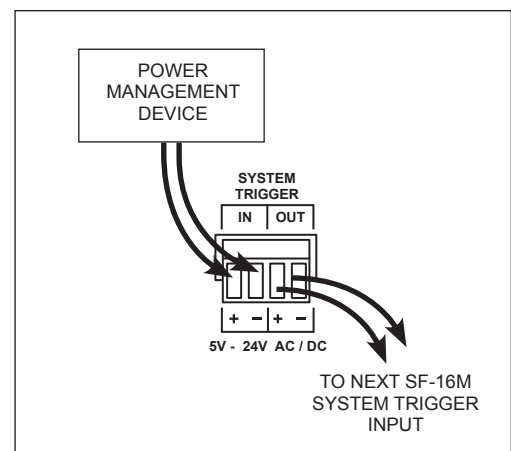

Figure 13
1. Make system trigger connections as illustrated in Figure 13.